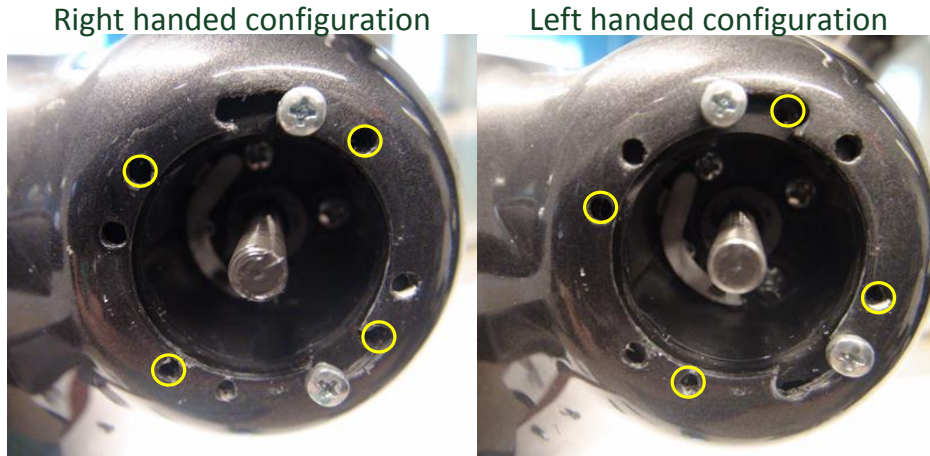

Figure 6 - Shift in finger motor alignment
- 3) Rotate the motor to the opposite side of the positioning slots until the holes and the inserts are perfectly aligned (represented by yellow circles in Figure 6);